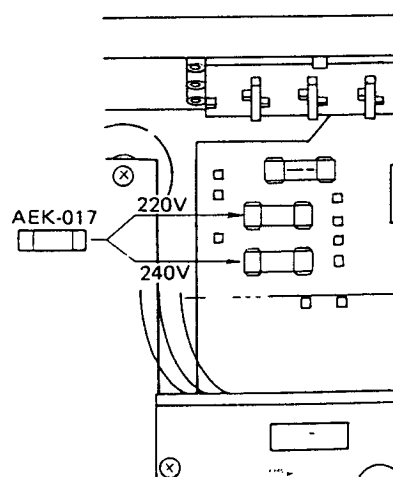

Fig. 1
4. Re-install the fuse in the correct voltage indication (see Fig. 1).